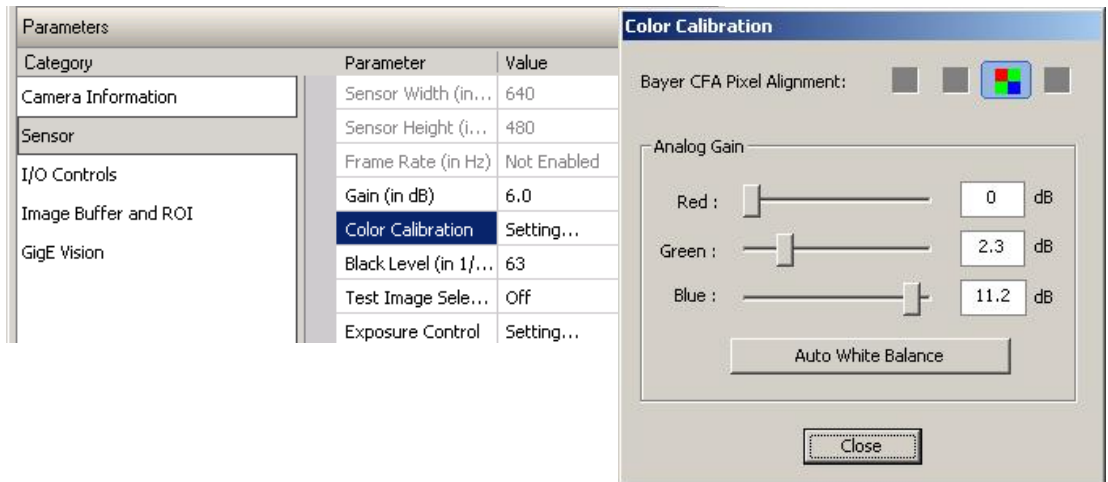

Figure 34. Sensor Tab, Color Calibration
2. Click on the “Sensor” tab (Figure 34, color camera shown).